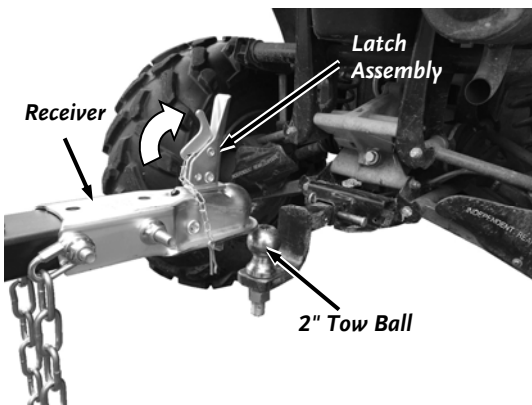

Figure 17
1. Remove the Locking Pin and Pull the Latch assembly on the Receiver up into the open position (**Figure 17**). Position the Receiver onto the tow vehicle's tow ball (must be a 2" tow ball).